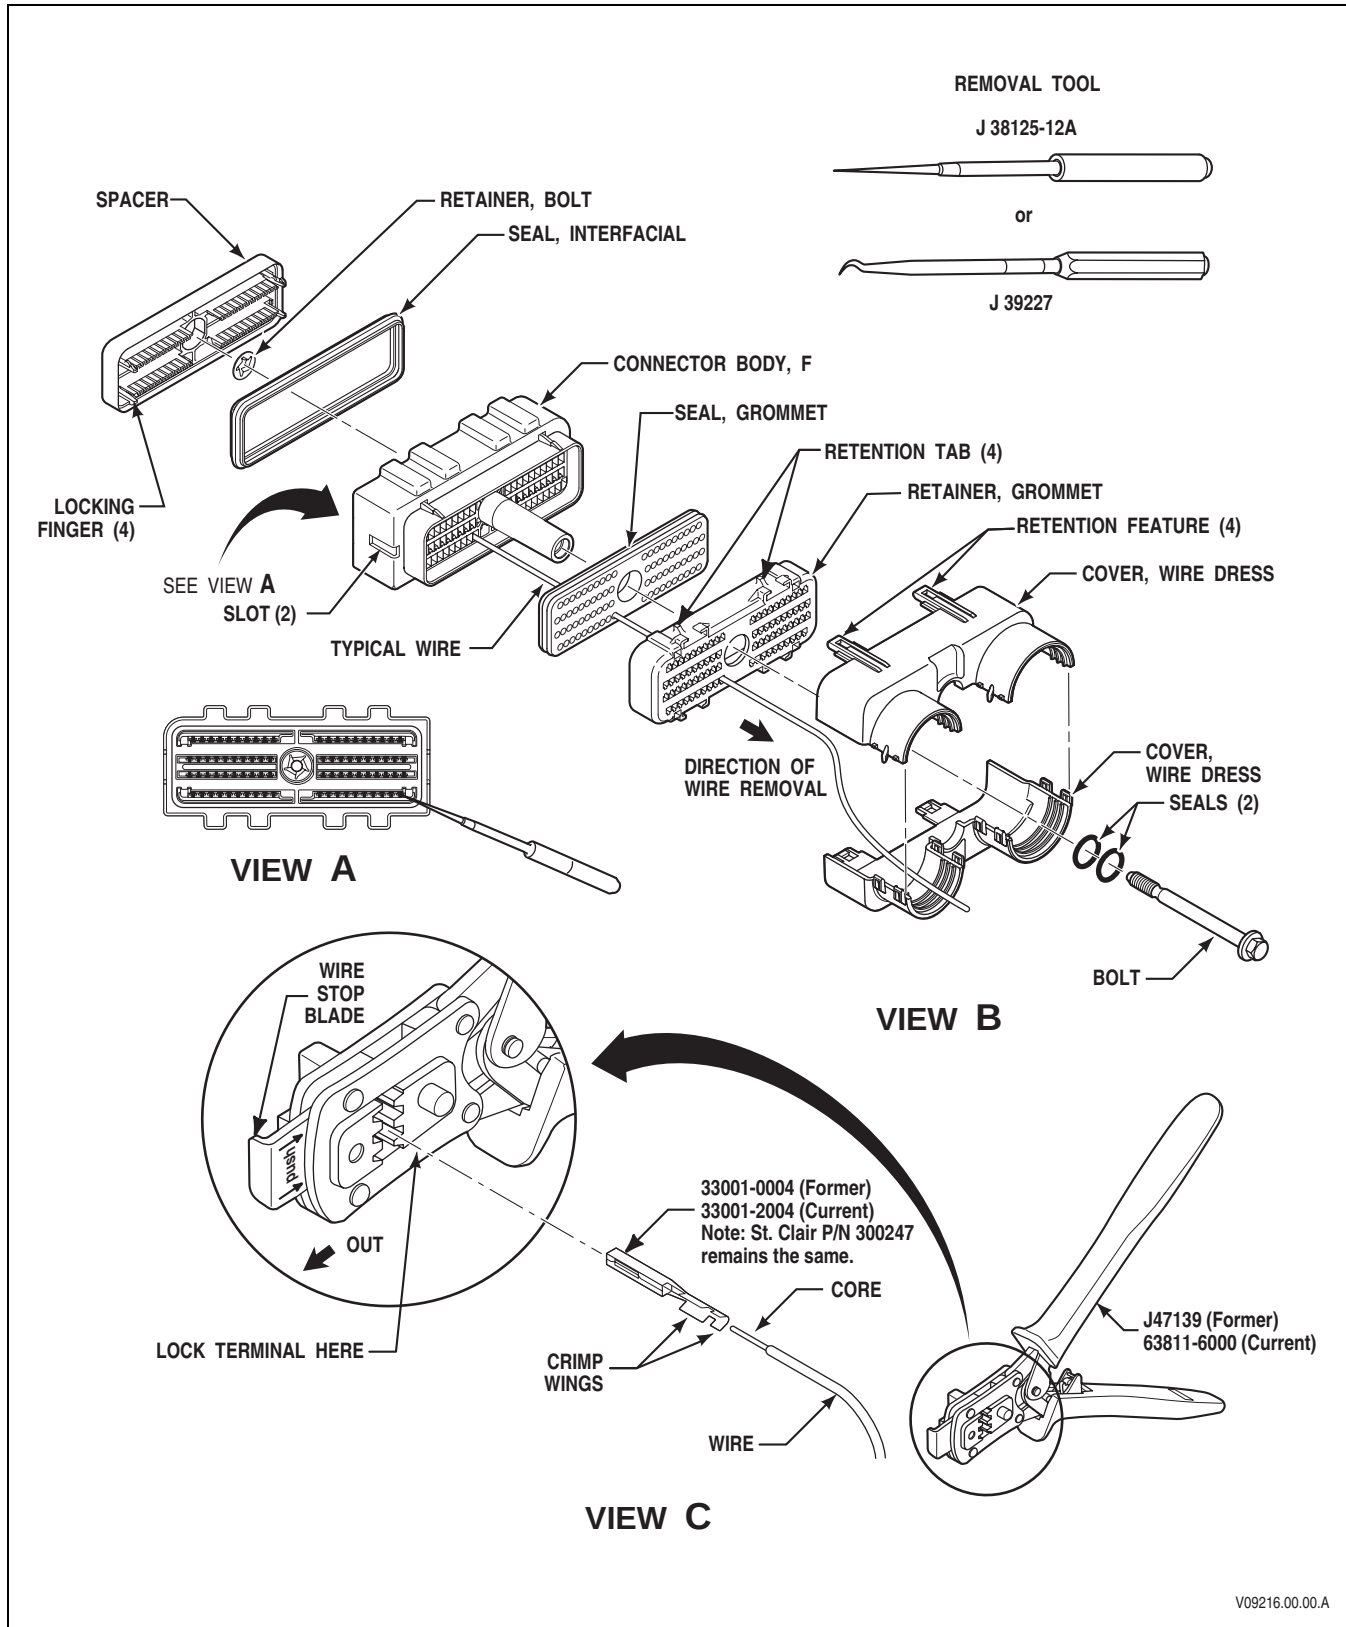

Figure E-1A. AFL 80F Bolt-Assist TCM Connector
A. TCM Connector, Assembly 80F Bolt Assist (refer to Figure E-1A)
- Loosen the bolt (Figure E-1A, B, or C, View B) that retains 80-way connector to the transmission control module (TCM).
- Refer to Figure E-1A, View B. Use a small-bladed screwdriver to gently unlatch the retention features (4) of the wire dress cover and separate the two halves.
- Insert a small-bladed screwdriver in between the connector body and the grommet retainer (Figure E-1A, B, or C, View B) and carefully pry the grommet retainer away from the connector body. Slide the grommet retainer along the wires away from the connector body. If the grommet seal stayed with the connector body, also slide it away from the connector body and seat it into the grommet retainer, allowing better access to the wires.
7. Insert the metal blade of J 38125-12A or J 39227 removal tool into the small hole in the front of the connector body above or below the desired terminal/wire lead cavity location (See Figures E-1A, B, or C, View A).
2. Refer to Figures E-1A, B, or C, View C. Pull out the wire stop blade of the crimping tool so it is clear of the terminal crimp area. Place the terminal all the way into the appropriate wire size opening of the J 47139 (former) or 63811-6000 (Molex P/N, current) crimping tool until it contacts the stop and is properly oriented. Squeeze the handle enough to keep the terminal in place in the tool but not enough to compress the crimp wings.